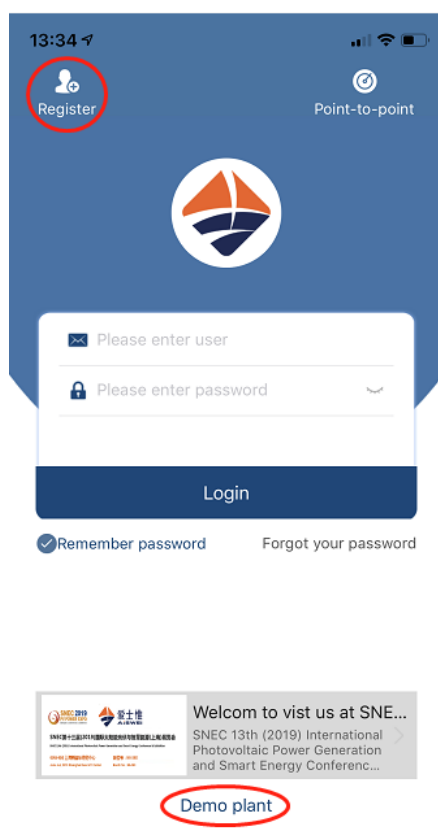

Figure 2-1-1 Homepage Page
Step 1: **Download and install** the AiSWEICloud APP and open the APP as shown in Figure 2-1-1.
Step 2: Click the “Register” button in red in Figure 2-1-1 to enter the registration page, as shown in Figure 2-1-2.